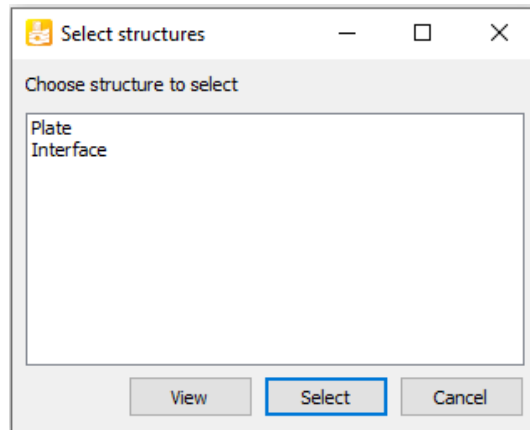

Figure 77: Select structures window
1. To select the lining of all the tunnel sections, click the corresponding button  in the side toolbar and drag the mouse to define a rectangle where all the tunnel sections are included. Select the **Plate** option in the appearing window as shown in Figure 77 (on page 102):